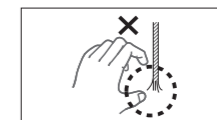

Fig.8
- Be careful not to get injured when handling the frayed wire. And please replace wires or cut the end of the wire because the frayed cable cannot be inserted into our products. (Fig. 8)